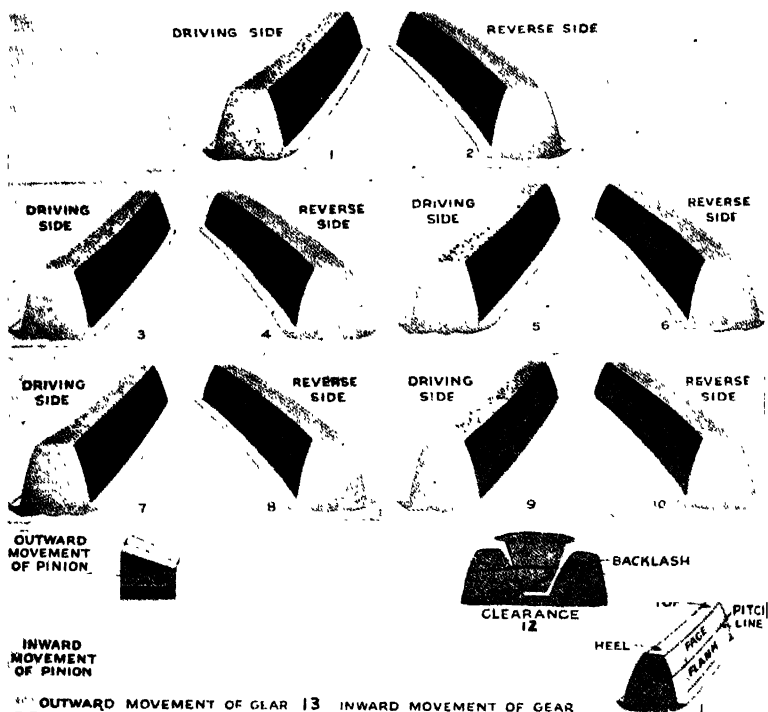

FIG. 26.—Adjustment of Bevel Gears in Assembly.
the car and paint the gear teeth with a thin coat of white lead. After this is done jack up the rear wheels and start the motor, throwing the transmission into high gear. Also throw in the brake, which must be equalized, with about the same load on each wheel. This will wipe the paint off the teeth. The condition illustrated in (9) and (10) Fig. 26, may be found to exist. The shaded portion represents the contact of the gear, which means the load is pulling on this portion of the teeth. In this case, move the pinion in, or toward the rear, two, three, or more notches of the adjusting nut, until the pinion wipes off the paint as shown